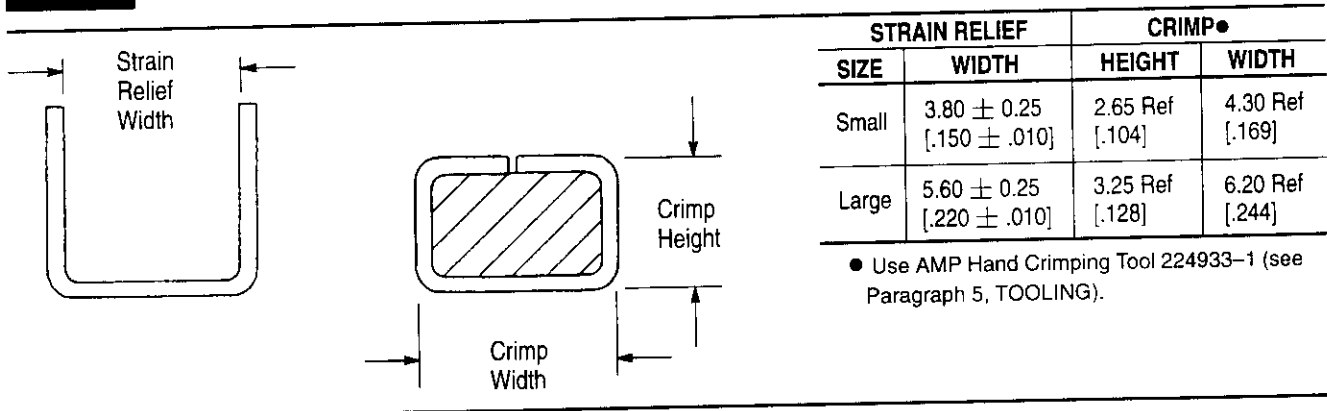

Figure 5
3. Crimp the lower shield around the drain wire and jacket. Crimp height, width, and tooling information can be found in Figure 5.